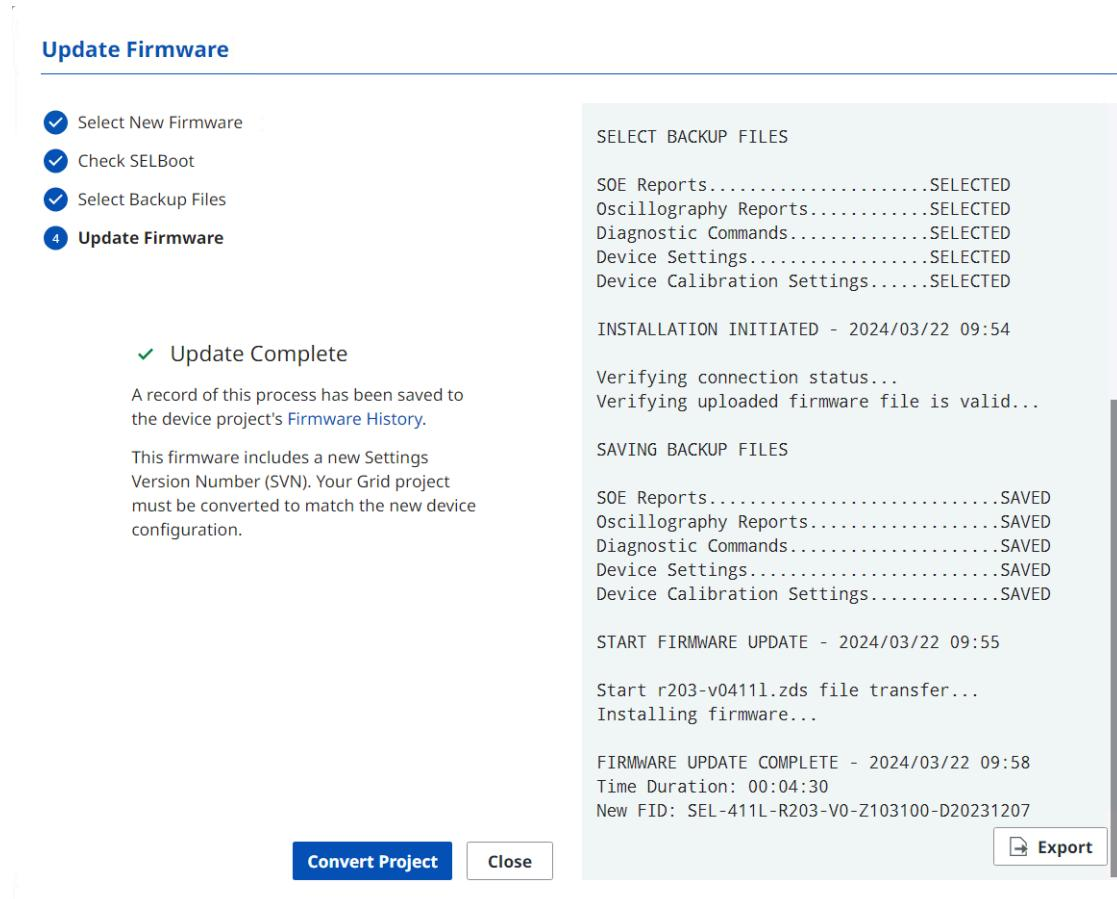

Figure 6.93 Completed Firmware Update
- Step 4. **Update Firmware.** During this step, SEL Grid Configurator executes the update process. Status information about the update proceeding is displayed throughout the process. After the update, new options are available, as seen in *Figure 6.93: Convert Project, Close, and Firmware History*. **Convert Project** will update the device project to match the device. **Close** will close the dialog without any further changes. **Firmware History**, located as a link in the Update Complete description, navigates SEL Grid Configurator to the Firmware History workspace.